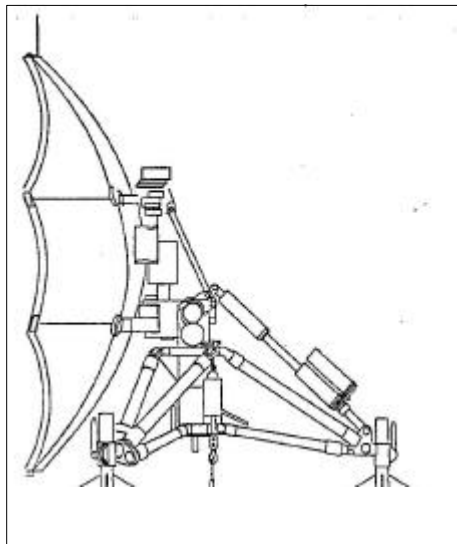

Figure B-2. Mission Antenna Elevation
- Mission antenna (three each) (see Figure B-2).